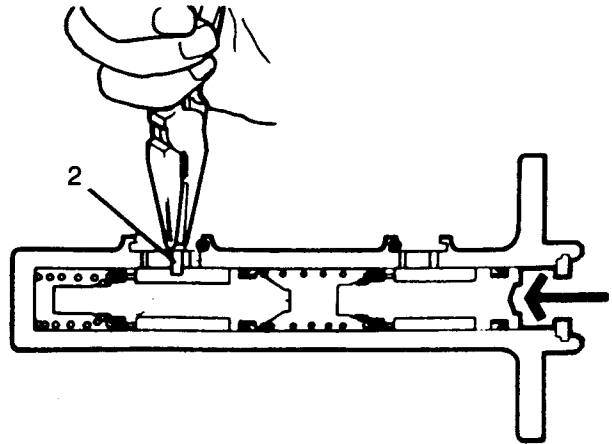

Fig K1.30
- (8) Refer to Fig K1.30. Using a clean screw driver, slowly press the plunger (arrowed) fully down the bore to enable the secondary plunger stop pin (2) to be fitted in its correct position.
- (9) Lubricate new seals with unused brake fluid and fit one in each inlet port.
- (10) Lubricate the seals and press the fluid reservoir into position on the cylinder and secure with the retaining pins.
- (11) Refit the master cylinder (see Sub-section K1.4, Chapter 3).